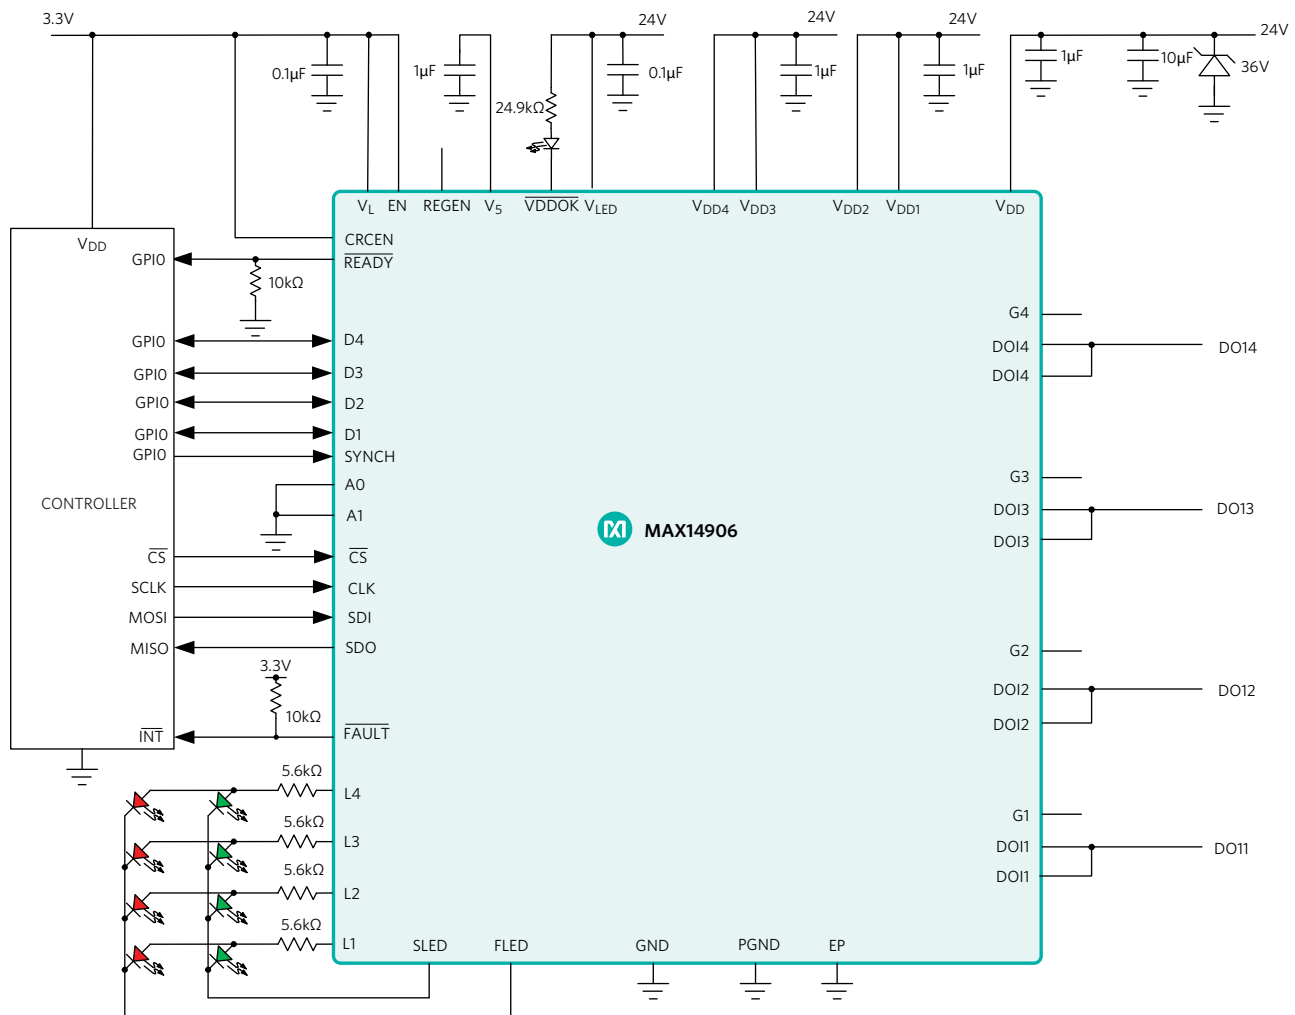

Figure 14. MAX14906 Typical Application Circuit
The **MAX14906** (Figure 14) is an IEC 61131-2-compliant, high-speed, four-channel IC that can be configured on a per-channel basis as either a high-side switch, push-pull driver, or a Type 1 and 3, or Type 2 digital input. Specified for operation with a supply voltage up to 40V, it is tolerant to voltages up to 65V. The high-side switch current limiting is settable from 130mA to 1.2A with the option of 2x load inrush current. The high-side driver has a typical R_{ON} of 120m Ω at 25°C. It also provides optional push-pull operation to drive cables and for fast discharge of load capacitance. For digital input operation, current sinks for 2.3mA (Type 1 and 3) or 7mA (Type 2) are provided. The SPI interface has a built-in chip addressing decoder, allowing communication with multiple ICs using a shared SPI via a common chip select (CS). The SPI interface provides flexibility for global and per-channel configuration and diagnostics, including supply overvoltage and undervoltage detection, wire-break or open-wire detection, thermal overload and current-limit reporting. For high-speed operation, the digital input and output states can be monitored and changed directly using pins. LED drivers can be used to provide indication of per-channel fault, status, and supply undervoltage conditions. Internal active clamps allow for fast turnoff of inductive loads while integrated line-to-ground and line-to-line surge protection requires only a single TVS on V_{DD} .